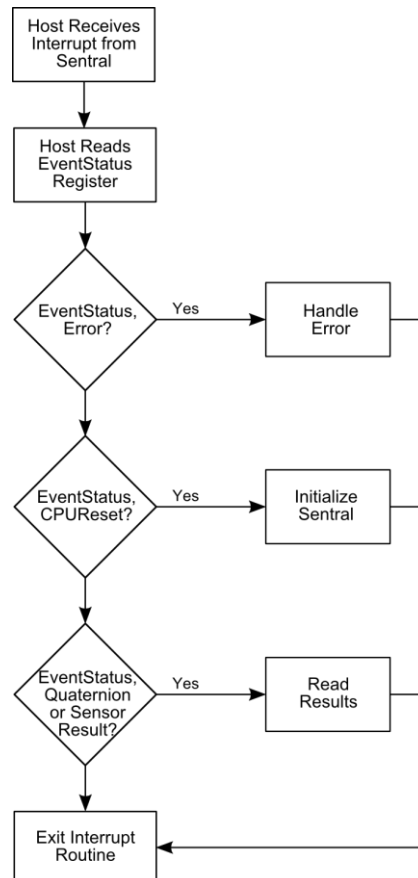

Fig. 6 *SENtral* Normal Operation Flow
- Interpret and act on the EventStatus register in the priority shown in Fig. 6. If bit [1], the Error bit, is '1' or if bit [0], the CPUReset bit, is '1', see "Section Error and CPUReset". If bits [2], [3], [4], or [5], the Results bits, are '1', read the desired data (see Section "Read Results").
Reading the EventStatus register clears it. It is possible for more than one bit position to be '1' in the EventStatus register, especially if the host does not always read the EventStatus register after receiving an interrupt. Similarly, if multiple bits are set to '1' in the EventStatus register, once the register is read all the bits will be set to '0'. For this reason the EventStatus register should be processed in the priority shown in Fig. 6, as information will be cleared for events that are not handled.